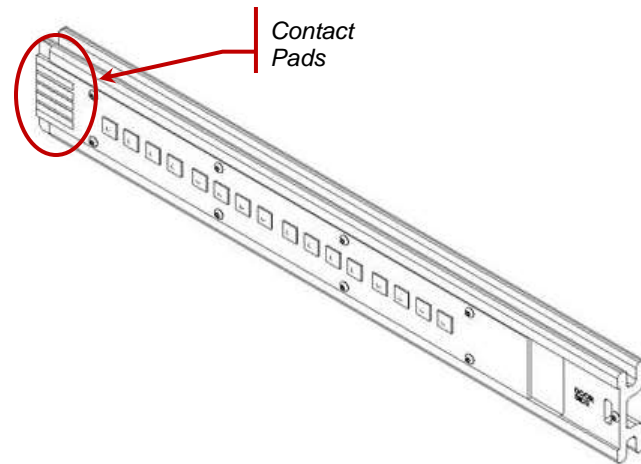

Figure 16 LED Replacement Array with Contact Pads Highlighted
5. Insert the replacement array into the device, so the area with the contact pads enters the device first. Refer to Figure 16.